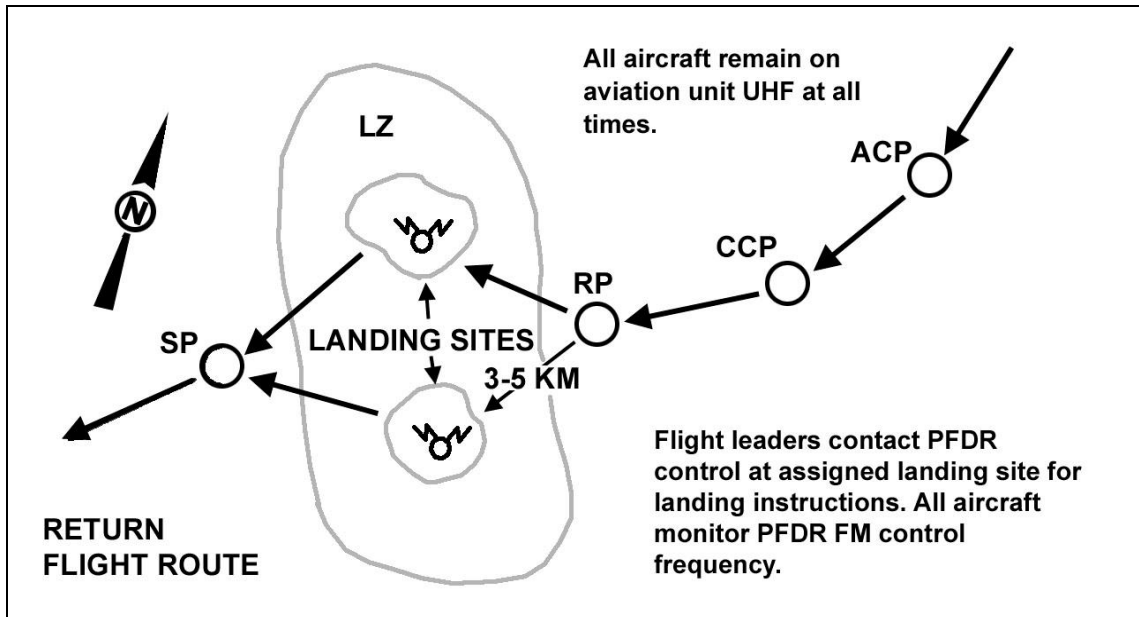

Figure 2-1. En route communication procedures with pathfinders in an LZ.
- a. Pathfinders must thoroughly understand radio procedures. This includes the phraseology unique to ATC (Chapter 3). They must send clear, concise, applicable, accurate, and correctly timed communications. To achieve speed and clarity of transmission, pathfinders and aviators practice radio discipline. They transmit only necessary messages. Also, except in emergencies, they use pathfinder ATC frequencies only for ATC (Figure 2-1).